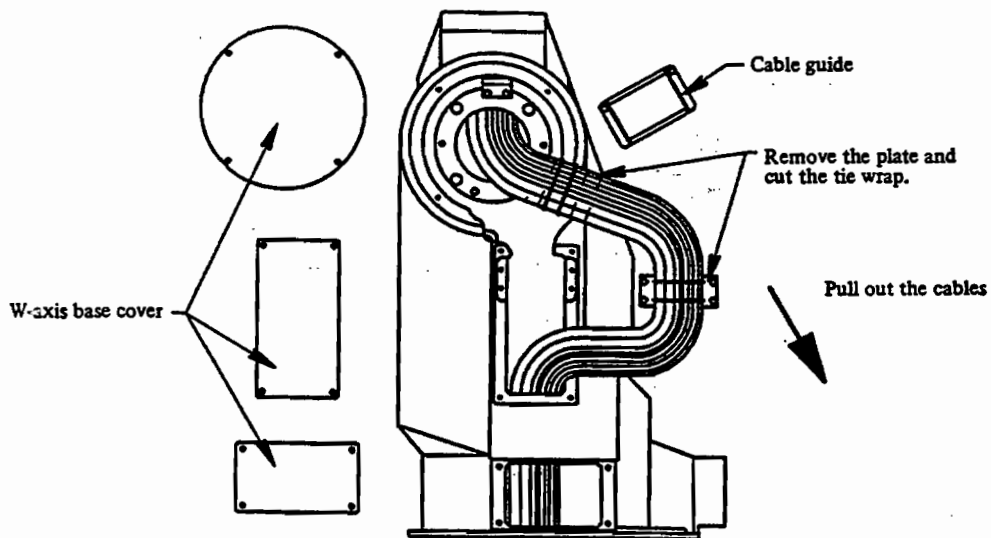

Fig. 7.2 (b) Replacing cables (S-700)
- ⑧ Remove the lower cover of the W-axis base. (See Fig. 7.2 (c).)